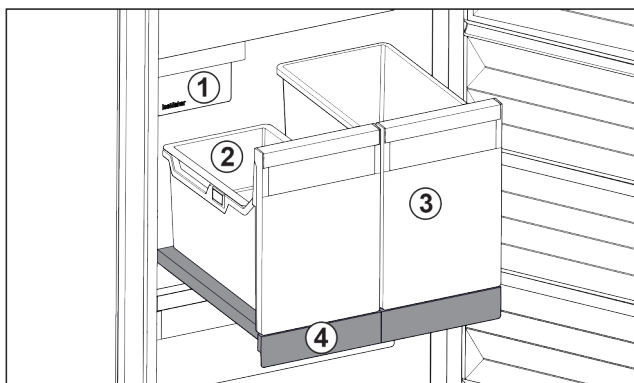

Fig. 193 Pull-out board with IceTower
There are two high (IceTower) containers on the pull-out board. Ice cubes from the IceMaker are collected and stored in the Fig. 193 (2) container. The container Fig. 193 (3) is suitable for storing tall foodstuffs or beverages such as pizzas or alcoholic drinks.